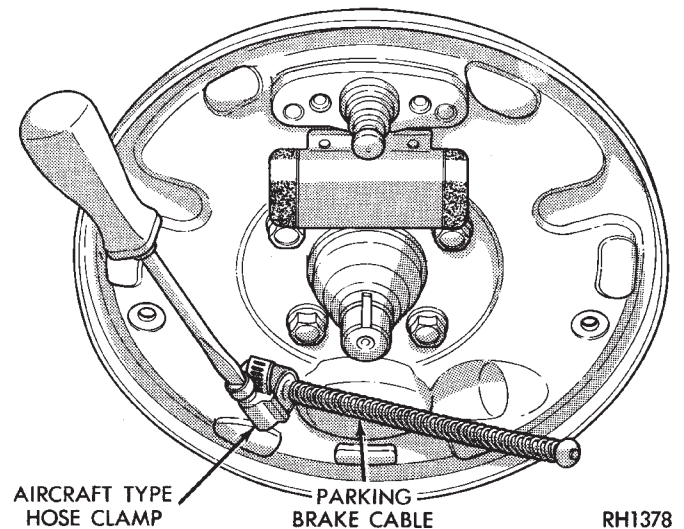

Fig. 1 Removing Brake Cable from Support Plate
- (3) Using a suitable tool such as an aircraft type hose clamp or a 14 mm box wrench compress the flared legs on park brake cable retainer. Then pull the parking brake cable out of brake support plate (Fig. 1).